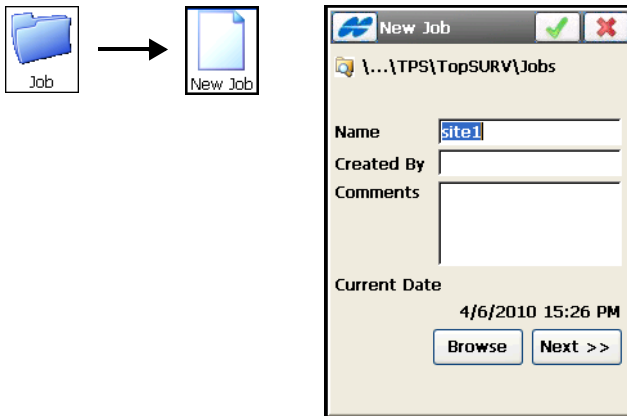

Figure 4-1. New Job
1. Tap **Job ▶ New Job** or tap the **New** button on the *Open Job* screen during initial startup (see Figure 2-1 on page 2-1). The *New Job* screen displays (Figure 4-1). Enter the Name of the job (mandatory) and any other informations. The date is stored automatically.